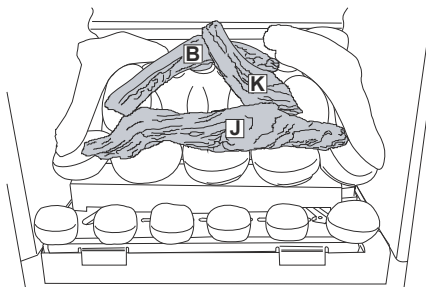

Figure 39
6. Next place the **B**, **J** & **K** driftwood pieces as in **Figure 39**.